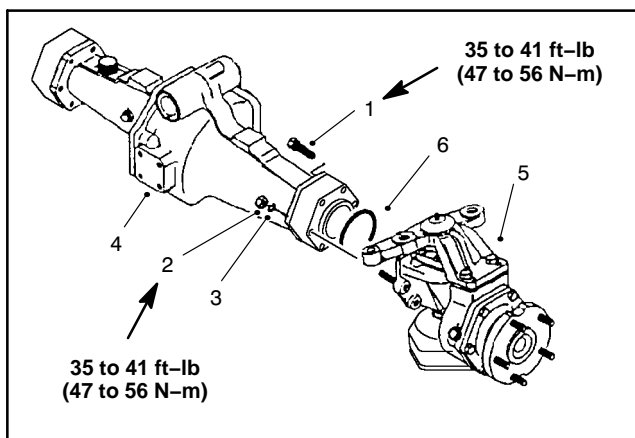

Figure 12
1. Remove the mounting screws, nuts, and lock washers. Remove the bevel gear case/axle case assembly and O-ring from the axle support (Fig. 12).